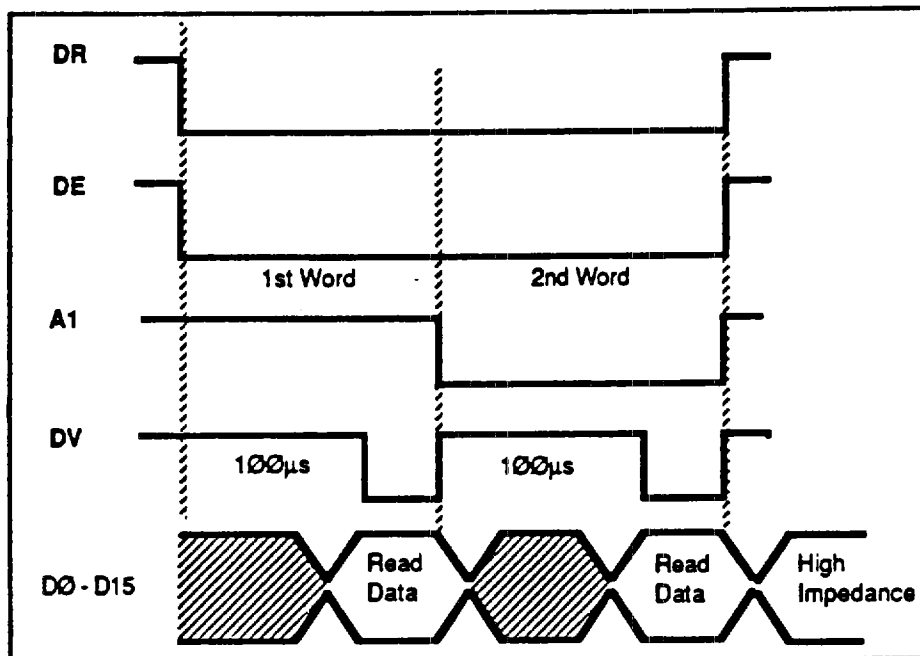

Figure 4-4. Timing—16-Bit Parallel Output
This section explains the process of reading a position in 16-bit segments. Wire and configure your decoder (DIP switches and jumpers) as described in Chapter 2, Getting Started (*Decoder 16-Bit Parallel Interface*). Use DIP switch S5 to select the binary (OFF) or BCD (ON) output format. To read a position (two two-byte segments—also referred to as a *word*) from the AL, refer to Figure 4-4 and follow the steps below.